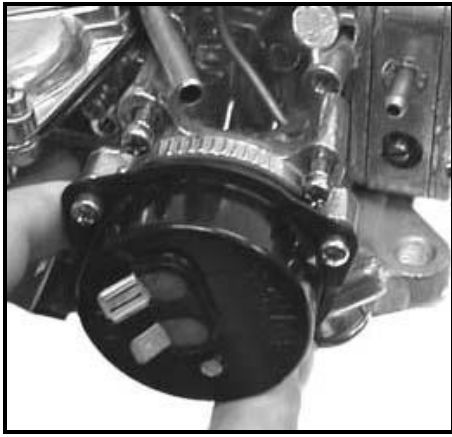

Figure 15
1. Remove the choke cap (electric choke) and choke housing (manual and electric choke) to gain access to the third screw retaining the vacuum diaphragm to the main body (**Figure 15**).